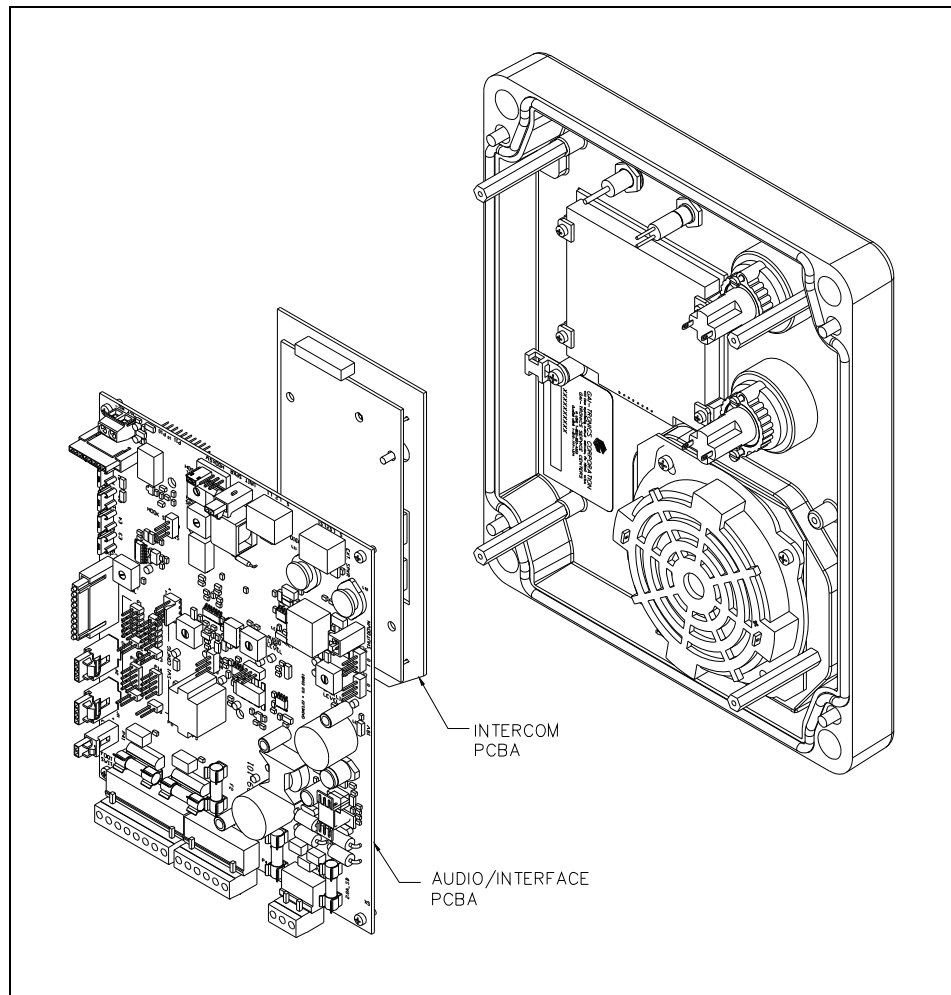

Figure 1. Front Panel Assembly with Intercom and Audio Interface PCBAs
3. Remove the four screws holding the Audio Interface PCBA in place and remove it. The Intercom PCBA is attached to the rear side of the Audio Interface PCBA. See Figure 1. Place the screws in a safe location.